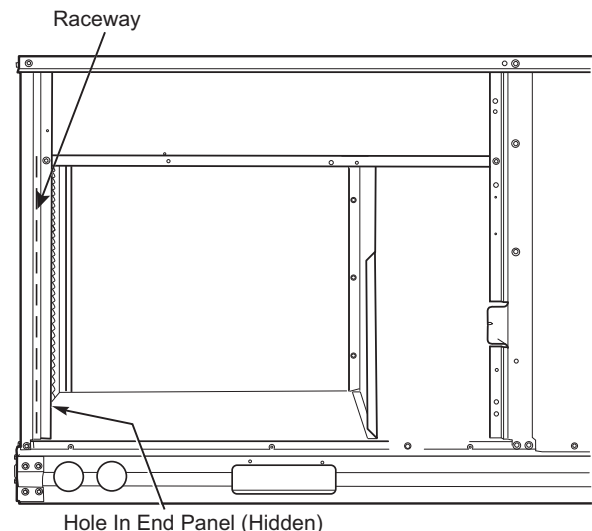

Fig. 40 — Field Control Wiring Raceway
Pass the thermostat control wires through the hole provided in the corner post; then feed the wires through the raceway built into the corner post to the control box. Pull the wires over to the terminal strip on the lower-left corner of the SystemVu controller main base board. See Fig. 40. Using the raceway maintains separation between low voltage and high voltage wires in accordance with UL and NEC requirements.
2. Feed wires through the raceway built into the corner post (see Fig. 40) to the 24-v barrier located on the left side of the control box. The raceway provides the UL-required clearance between high-voltage and low-voltage wiring.